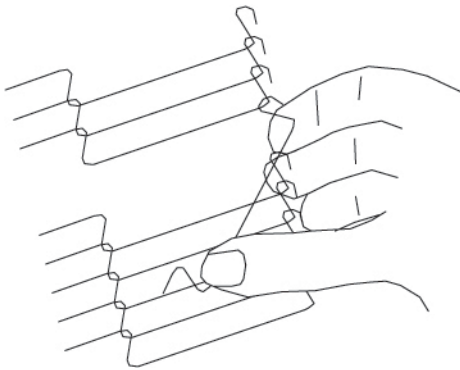

Figure 48.
1. With the conveyor assembly in the oven, stand at one end of conveyor and check tension by lifting the conveyor belt at the center of the oven chamber opening. The belt should not lift higher than 1 to 2 inches (25 to 50mm) (Figure 48).
- Remove the outside master links on the right and left sides of the conveyor belt as shown in Figure 48.